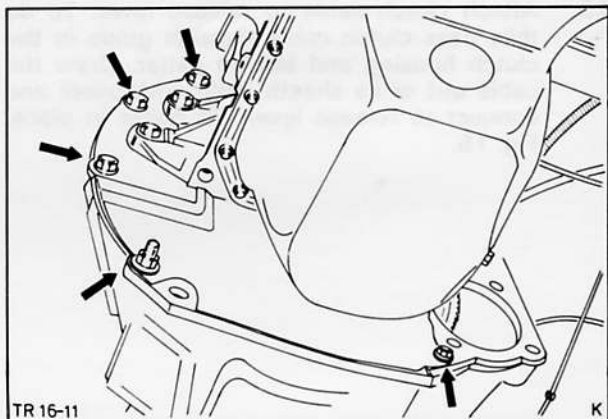

Fig. 12. Fit gearbox to engine flange
14. Locate clutch housing with two opposing bolts done up finger tight. Then insert remaining bolts. Torque all bolts as specified, Fig. 12.